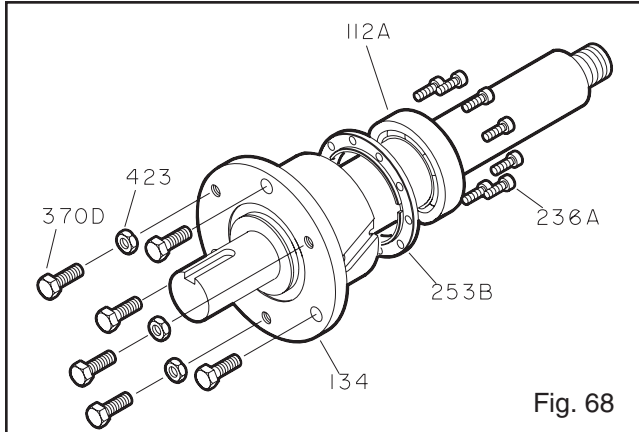

Fig. 68
- Remove jack screws (370D) with nuts (423) (Fig. 68).
- Remove clamp ring screws (236A). Separate clamp ring (253B) from bearing housing (134).